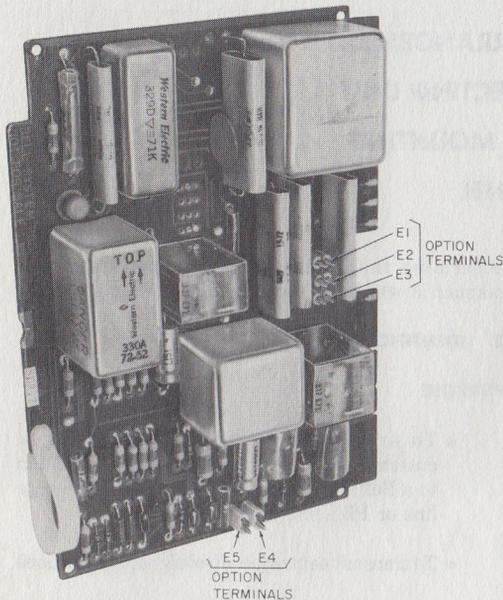

Fig. 1—120A Interconnecting Unit
- Unit, Interconnecting, 120A (one per line, Fig. 1)
- Option terminals (Fig. 1 and 2) for use with -48 volts or -24 volts
- (a) **For Use in 604B Panel:** If the dc power supply is 24 volts (option Z), strap E2 to E3 and E4 to E5. If the dc power supply is 48 volts (option Y), strap E1 to E2 (Fig. 1 and 8). Use 24 gauge bare wire and check connections for continuity after strapping.